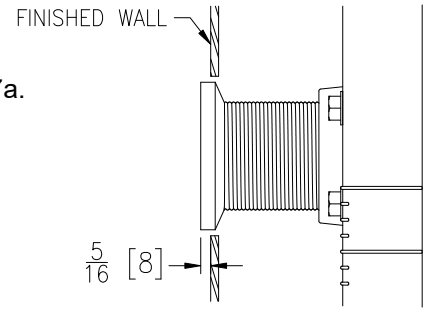

Fig. 17a
- a. Standard, -CS, and -CC Couplings – Remove coupling protector. Ensure coupling extends $5/16"$ [8mm] from finished wall. See Fig. 17a.